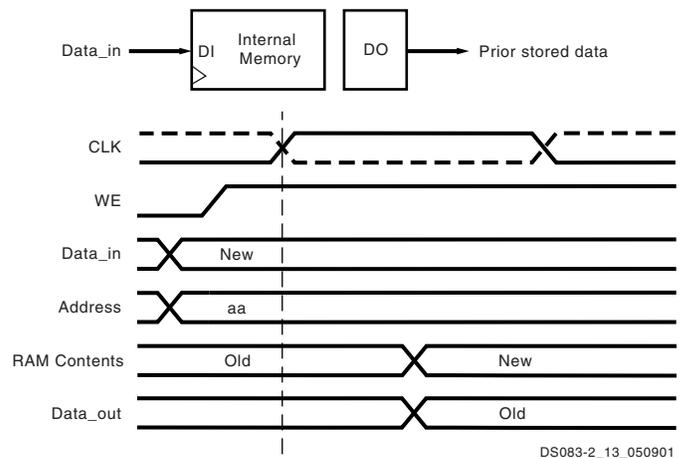

Figure 50: READ_FIRST Mode
The same clock edge that writes data input (DI) into the memory also transfers the prior content of the memory cell addressed into the data output registers DO, as shown in Figure 50.